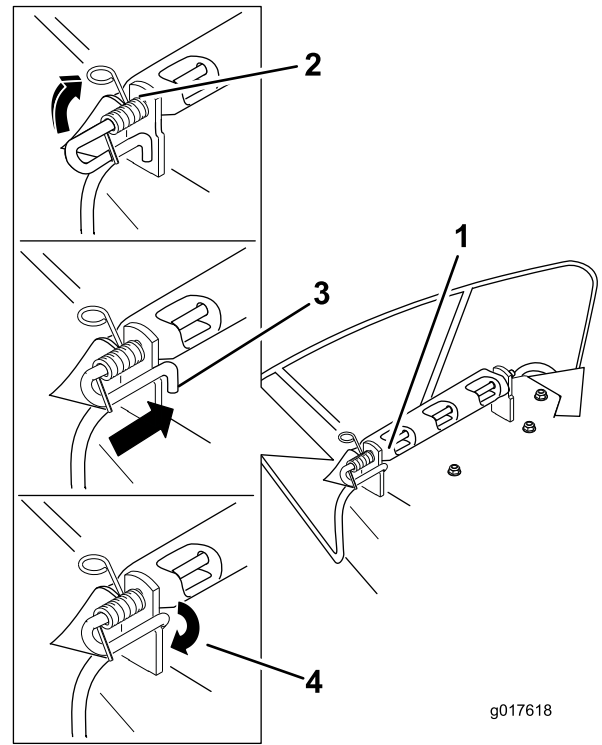

Figure 64
7. Secure the rod and spring assembly by twisting it so that the short end of the rod is behind the front bracket welded to the deck (Figure 64).
3. Position the new discharge deflector with the bracket ends between the welded brackets on the deck as shown in Figure 64.
6. Lift the loop end of the spring and place it into the notch on the deflector bracket (Figure 64).